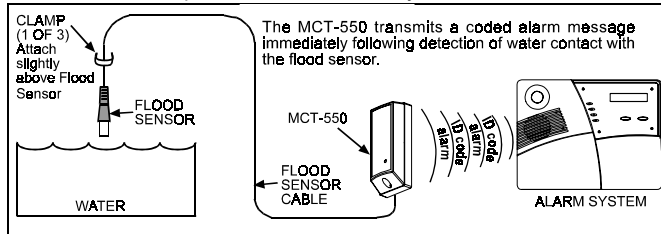

Figure 1. Using the MCT-550
B. Secure the flood sensor and its cable to the wall using at least one of three clamps in which one clamp is placed slightly above the flood sensor and the remaining two clamps can be used as required (Figures 1 and 3).